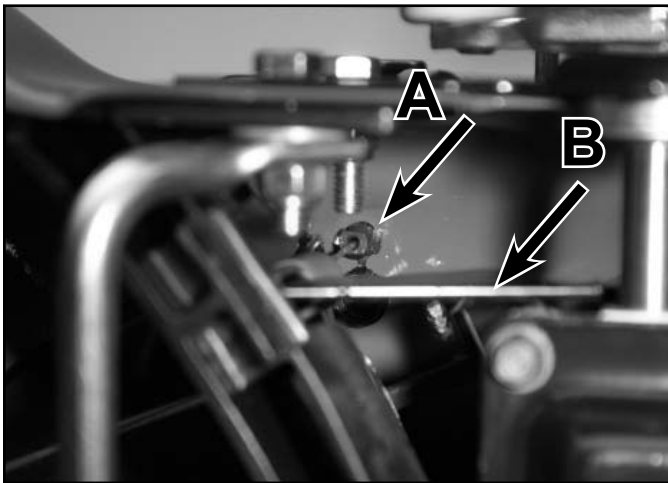

Fig 063
4. Tip the mower on its side. The cable snaps in from the top and connects to an arm on the transmission belt guide (Fig. 063).